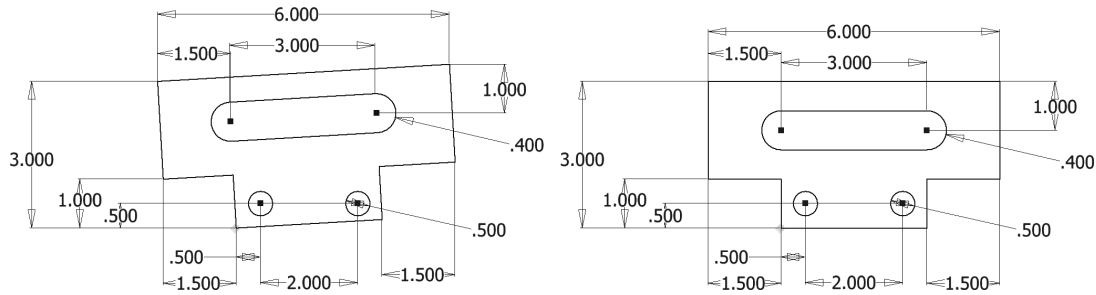

Figure 2.95
**19** Drag the top-right endpoint of the upper horizontal line up. The sketch will be rotated slightly as shown in Figure 2.95 left.
**20** Apply a horizontal constraint to the lower horizontal line, and this will fully constrain the sketch as shown in Figure 2.95 right. Reposition the dimensions as needed.